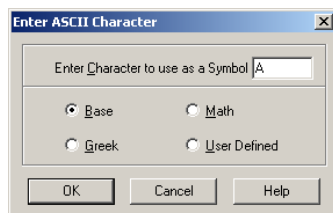

Figure 8-13. The Enter ASCII Character dialog.
3. If you select Other, the Enter ASCII Character dialog appears, as shown in Figure 8-13.
3. If you select , the Enter ASCII Character dialog appears, as shown in Figure 8-13. Enter the ASCII character to use as a symbol, and select a font from which to display the symbol. When you are done, click OK.